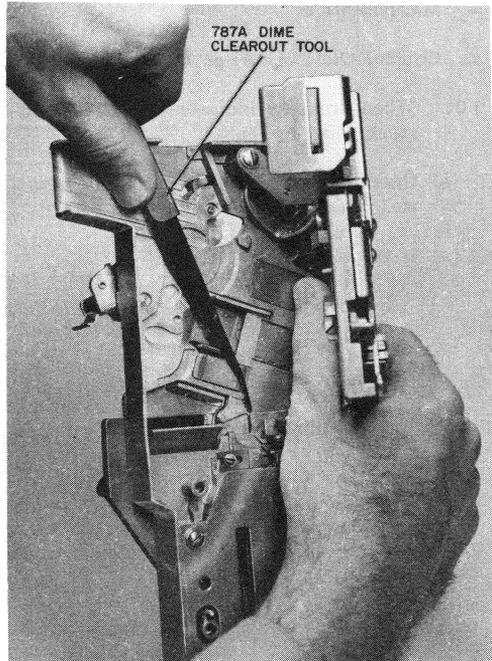

Fig. 41—Using a 787A Dime Clearout Tool in Chute
5.02 If trouble cannot be cleared using an orange stick, use a 787A tool (Fig. 41) as follows.
- (b) Swing upper plate assembly open per Fig. 41.